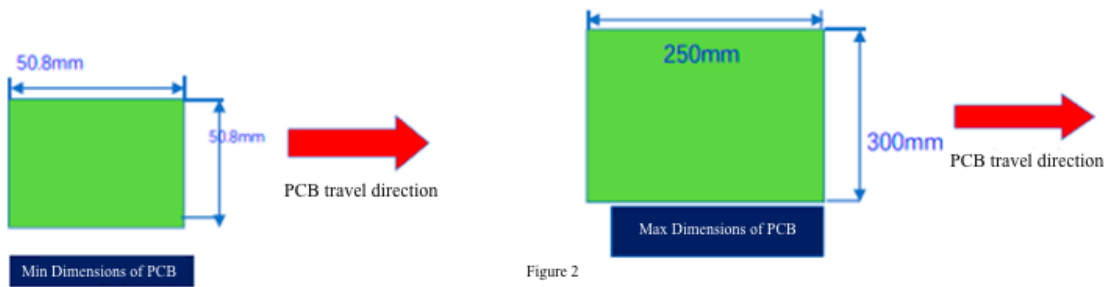

Figure 2
1. The minimum dimensions allowed for PCBs during the SMT process:  $L \times W = 50.8 \text{ mm} \times 50.8 \text{ mm}$ . If the designed dimensions are less than the required ones, panelize PCBs or increase the handling margin, as shown in Figure 2.
2. The maximum dimensions allowed for PCBs during the SMT process:  $L \times W = 250 \text{ mm} \times 300 \text{ mm}$ . The limits on the SMT capabilities are taken into account in this design, as shown in Figure 2.